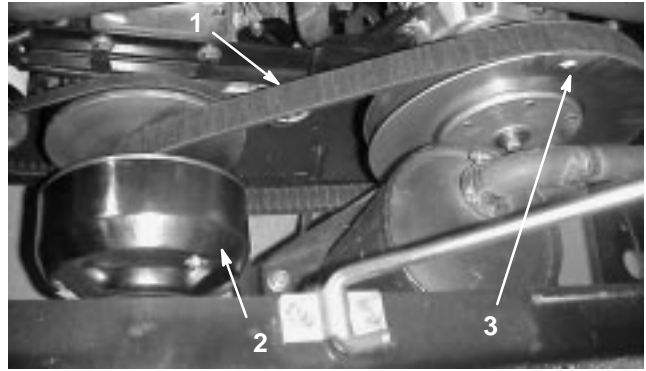

Figure 37
1. Rotate and route the belt over the secondary clutch (Fig. 37).
2. Remove the belt from the primary clutch (Fig. 37).